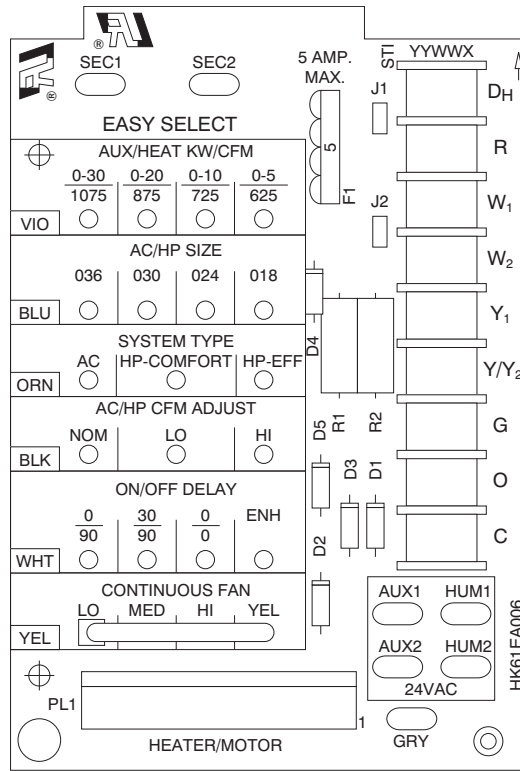

Fig. 7 – Easy Select Board
NOTE: Layout of actual PCB is depicted in Fig.7.
The Easy Select taps are used by installer to configure system. The ECM2.3/5.0 uses selected taps to modify its operation to a pre-programmed table of airflows. Airflows are based on system size and mode of operation and those airflows are modified in response to other inputs such as the need for de-humidification. (See Fig. 7.)
The installer must select the auxiliary heat airflow approved for application with kW size heater installed. Each select pin is marked with a range of heaters for which airflow (also marked) is approved. For increased comfort select the narrowest kW range matching the heater size, for example, 0–10 for a 10-kW heater. This airflow must be greater than the minimum CFM for electric heater application with the size system installed for safe and continuous operation. Note that airflow marked is the airflow which will be supplied in emergency heat mode and heating mode on air conditioners when electric heat is primary heating source. To ensure safe heater operation in heat-pump heating mode, when electric heaters are energized, the ECM2.3/5.0 will run the higher of heat pump airflow and electric heater airflow. The factory default selection is largest heater range approved. (See Fig. 7.)
The factory default setting for air conditioner or heat pump size is largest unit meant for application with model of fan coil purchased. The installer needs to select air conditioner or heat pump size to ensure that airflow delivered falls within proper range for size of unit installed in all operational modes. (See Fig. 7.)
The factory setting is AC. (See Fig. 7.)
Select low, nominal, or high airflow. The factory selection is NOM. The adjust selections HI/LO will regulate airflow supplied for cooling and heat pump heating modes only, +15 percent and -10 percent respectively. The adjust selection options are provided to adjust airflow supplied to meet individual installation needs for such things as noise, comfort, and humidity removal. (See Fig. 7.)
Select desired time delay profile. Four motor-operation delay profiles are provided to customize and enhance system operation. (See Fig. 7.) The selection options are:
Select desired continuous-fan profile LO, MED, or HI. Airflow are provided to customize and enhance the continuous fan functions. (See Fig. 7.) The possible selections are:
1. Check transformer and thermostat wiring. (See Fig. 7.) Be sure transformer is not shorting out because thermostat wires are miswired.
2. Check wiring of relays. (See Fig. 7.) Be sure low-voltage and high-voltage wiring are connected to proper sequencers.